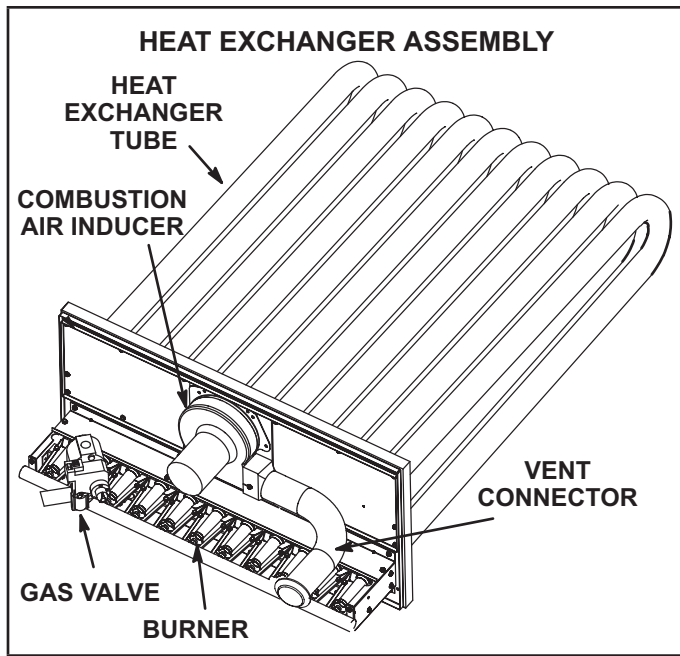

FIGURE 37
- 3 - Remove and retain screws securing combustion air inducer to flue box. Remove vent connector. See FIGURE 37.